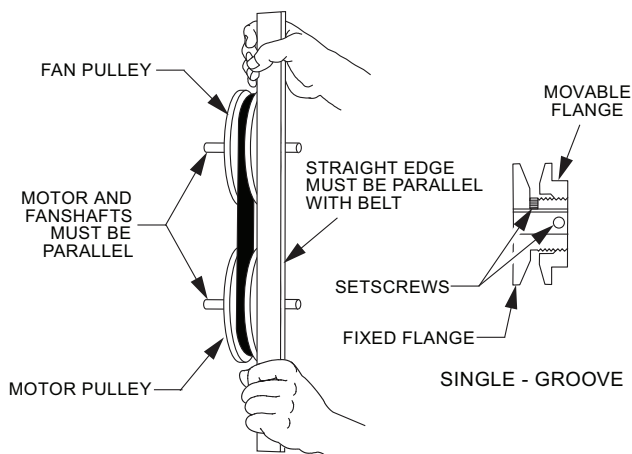

Fig. 6 — Supply-Fan Pulley Adjustment
The motor pulley is an adjustable-pitch type that allows a servicer to implement changes in the fan wheel speed to match as-installed ductwork systems. The pulley consists of a fixed flange side that faces the motor (secured to the motor shaft) and a movable flange side that can be rotated around the fixed flange side that increases or reduces the pitch diameter of this driver pulley. (See Fig. 6.)
3. Loosen movable pulley flange setscrew. (See Fig. 6.)